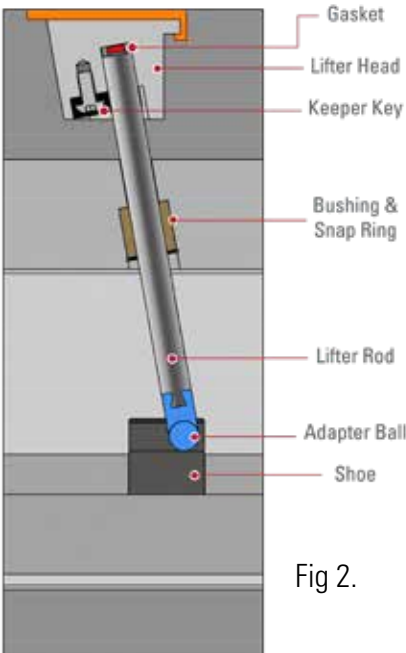

Fig 2.
5. With the lifter and components installed into the mold base design and allowing for the compressed gasket, measure the length of the lifter rod (FIG. 2)